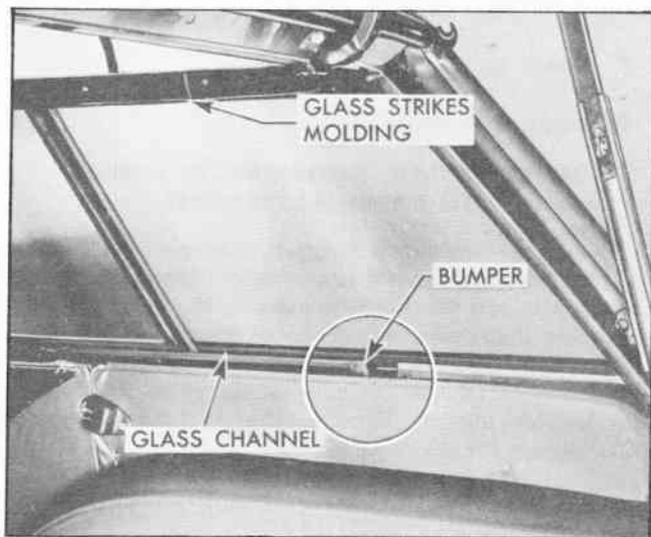

Fig. 41 Rear Quarter Sliding Window Bumper
2. With rear quarter sliding window in forward position, remove bumper as shown in Fig. 41.